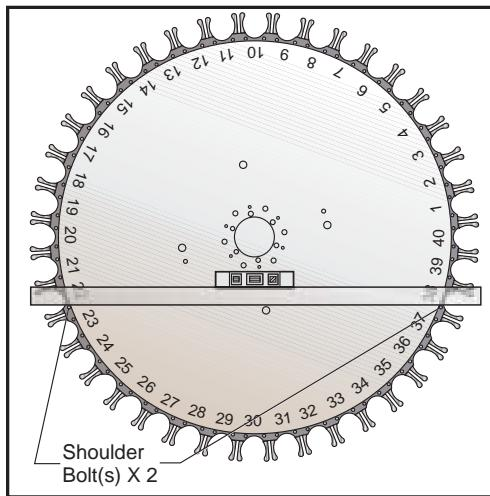

Figure 3.8-6.
8. Move to the **SETTING** screen. Cursor to Setting **(7) PARAMETER LOCK**. Toggle the **PARAMETER LOCK** to “**OFF**”, then press the **WRITE/ENTER** button to enter this value.
14. Install two  $\frac{1}{4}$ -20 x 2 in. shoulder bolts into threaded holes on the face of the carousel as shown in Figure 3.8-6. Place a 48" bubble level or a flat bar with a torpedo level across the two shoulder bolts.